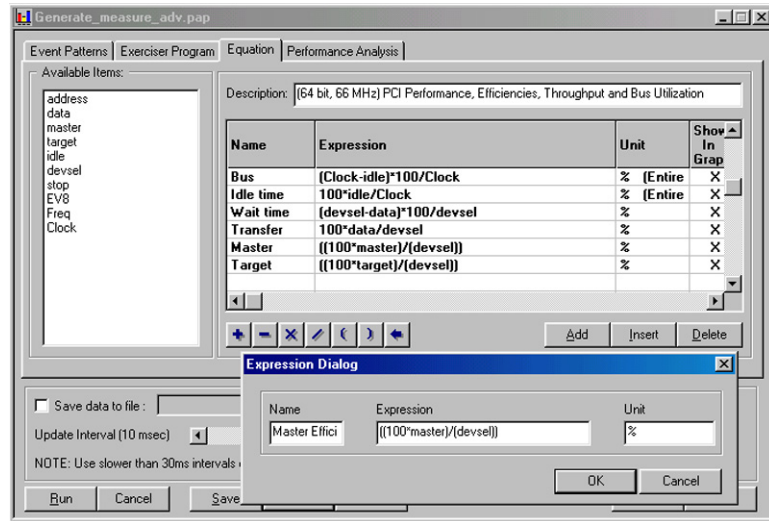

Figure 98 Equation Editor Dialog Box
1. Click the Equation Tab to open the Equation Editor dialog box as shown in Figure 98